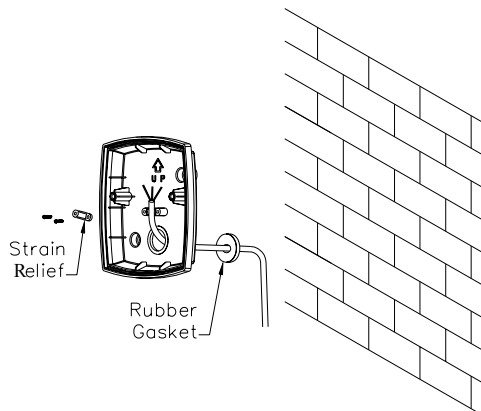

FIGURE 10
- (1) Switch off the power source or wall switch.
- (2) Detach the wiring box from the backplate.
- (3) Use a flat blade screwdriver to break a hole on the rubber gasket. Route the power cord through the rubber gasket and strain relief by fastening the power cord with two screws provided. (FIGURE 10)